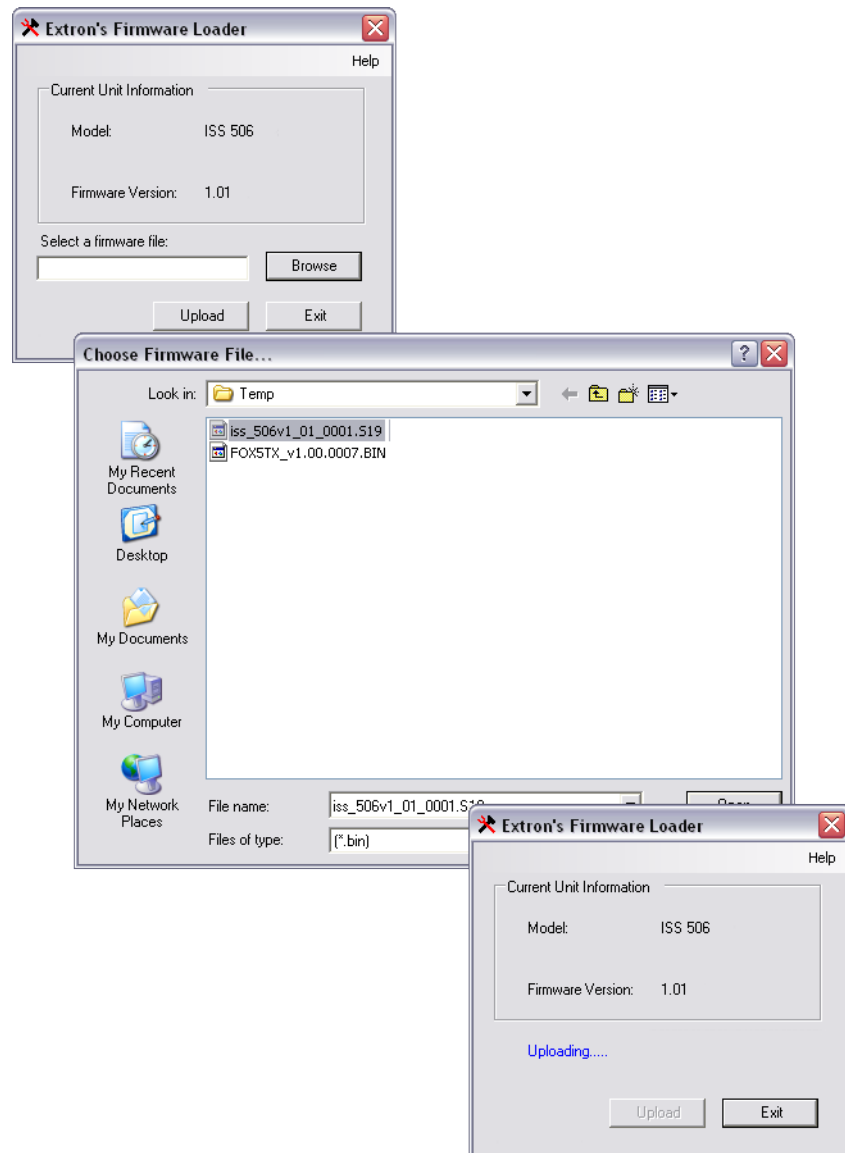

Figure 5-21 — Firmware loading
7. Click the OK button. The Extron Firmware Loader appears (figure 5-21).